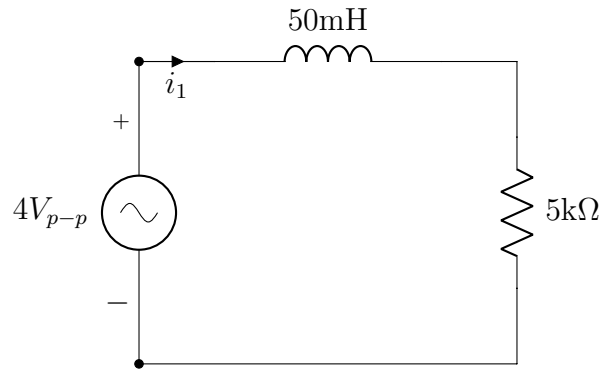

Figure 4.3: Series RC Circuit
Part (0) Prior to coming to the lab, calculate theoretical voltage and current values in Figure 4.3 and record them in Table 4.1. Calculate all voltages and currents as **peak-to-peak** values.
Part (2) Construct the series RL circuit in Figure 4.3. Connect Channel 1 of the oscilloscope across the function generator (through the bread board). Use the “W1” and Ground pins of the Analog Discovery for the Function Generator, “1+” and “1-” pins for Channel 1 of the Oscilloscope, and “2+” and “2-” pins for Channel 2 of the Oscilloscope.